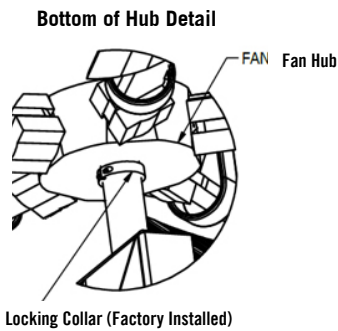

Figure 33. Key Lineup
7. Align the bushing keyway with the shaft keyway. Insert the shaft key from the top of the hub assembly. Slowly lower the fan onto the shaft until the fan hub is flush against the factory installed tangent locking collar (**Figure 33**).